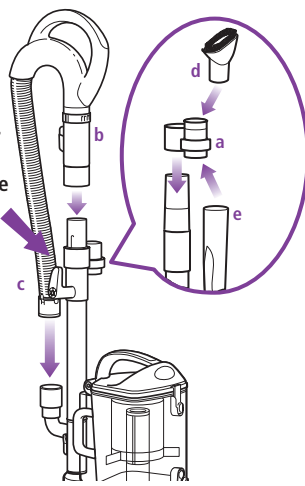

Fig. 12
- 4** Slide the accessory holder **(a)** positioned opposite the upper cord wrap, over the extension wand. Align the tab with the groove and push down. **(Fig. 12)**
- 5** Push the handle **(b)** onto the top of the extension wand until you hear it click into place. **(Fig. 12)**
- 6** Insert the end of the stretch hose **(c)** into the connector on the back of the detachable canister. **(Fig. 12)**
- 7** Store the dusting brush **(d)** and the crevice tool **(e)** on the mounts of the accessory holder. **(Fig. 12)**